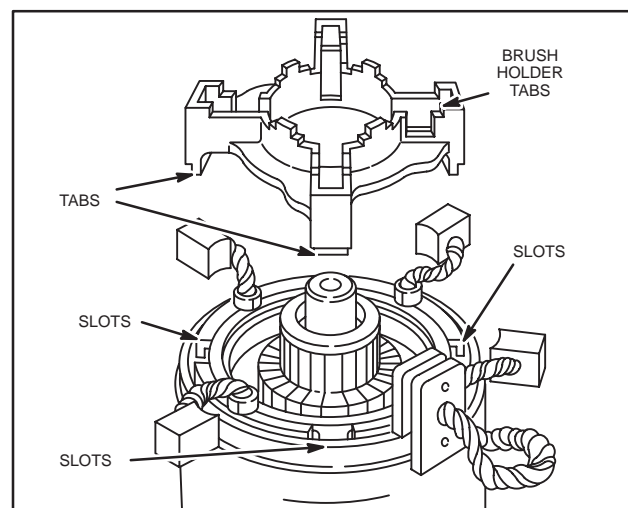

Fig. 73 – Installing Brush Holder
3. Install brush holder, inserting tabs on brush holder into slots in starter housing, Fig. 73.